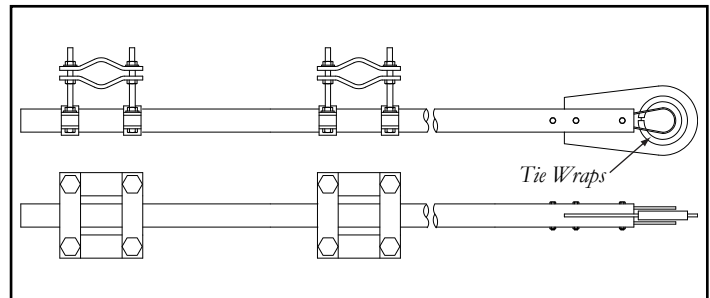

Figure 2. DSH2H3S Fiberglass Outrigger Assembly.
- DSH2H3S (Figure 2) outriggers are designed to limit tip deflection on fiberglass antennas in high wind conditions.
4. Use optical 14-inch tie wrap to secure antennas with 2-inch O.D. radomes, for additional support (Figure 2).